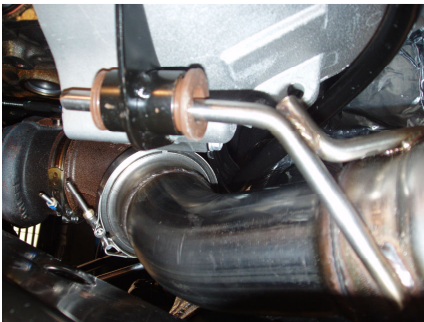

Figure 1
1. Slide the OEM down pipe hanger bracket onto the **Down Pipe** hanger. Install the **Down Pipe** in the same position as the stock down pipe by reattaching the hanger bracket to the bellhousing and then attaching the flared end to the turbo using the stock band clamp. Do not fully tighten until all components are in place. **Refer to Figure 1 & 2.**